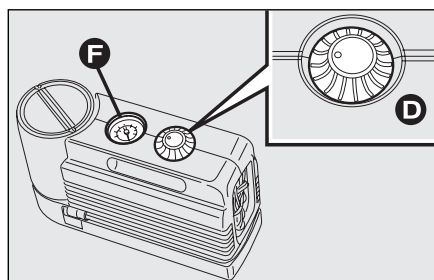
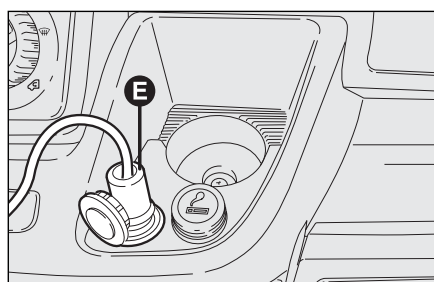

fig. 13
fig. 14
- ☐ make sure the compressor switch **D**-fig. 13 is set to 0 (off), start the engine and fit plug **E**-fig. 14 into the nearest current outlet and then turn on the compressor by setting switch **D**-fig. 13 to I (on). Inflate tyre at 4 bar pressure.
Check tyre pressure on gauge **F**-fig. 13 with compressor off to obtain precise reading;